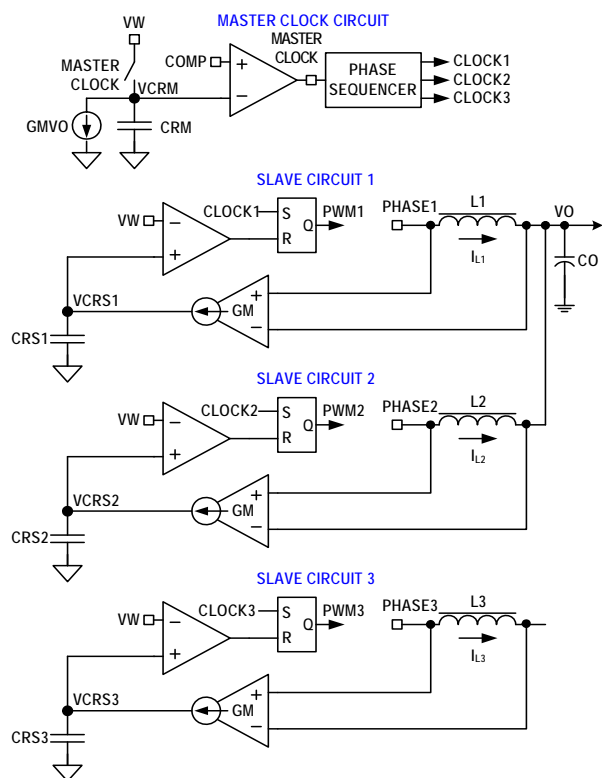
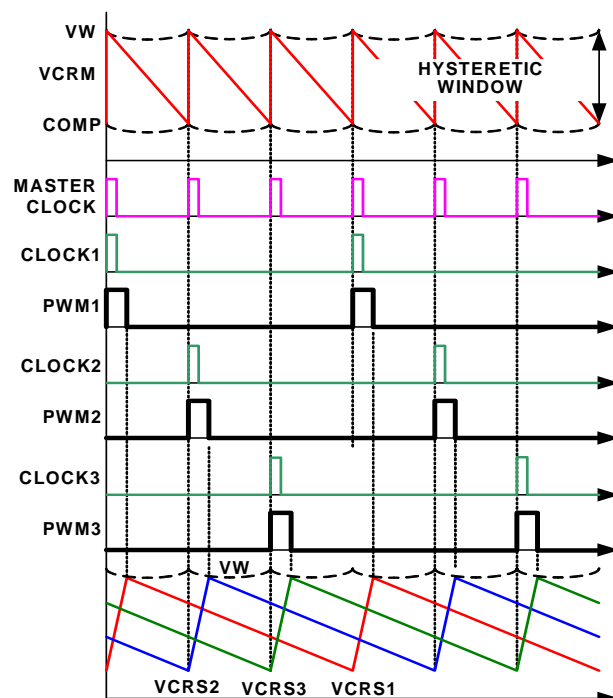

FIGURE 7. R3™ MODULATOR CIRCUIT
FIGURE 8. R3™ MODULATOR OPERATION PRINCIPLES IN STEADY STATE
The ISL62773 is a multiphase regulator implementing two voltage regulators, CORE VR and Northbridge (NB) VR, on one chip controlled by AMD's™ SVI2™ protocol. The CORE VR can be programmed for 1-, 2- or 3-phase operation. The Northbridge VR can be configured for 1- or 2-phase operation. Both regulators use the Intersil patented R3™ (Robust Ripple Regulator) modulator. The R3™ modulator combines the best features of fixed frequency PWM and hysteretic PWM while eliminating many of their shortcomings. Figure 7 conceptually shows the multiphase R3™ modulator circuit, and Figure 8 shows the operation principles.